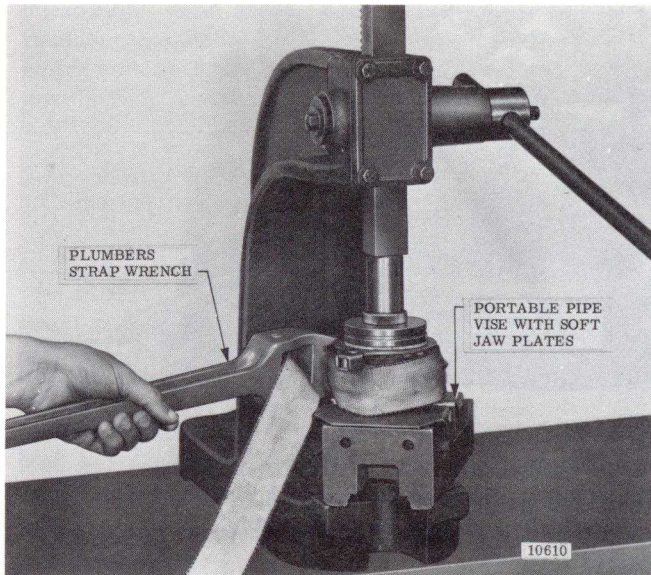

Figure 7-28. Winding Load Brake Gear
(6) The brake spring must be pre-loaded at assembly to a torque of from 6 to 10 lb. ft. when used with yellow (color code) spring and a torque of 10 to 14 lb. ft. when used with plain (no color code) spring. (See Section IX for proper spring). This is accomplished using a plumber's strap wrench to wind (rotate) load brake gear to set up spring (fig. 7-28) while pressing brake flange into place using an arbor press. Clamp pinion end of shaft into a portable vise to keep brake from rotating in press. Use brass or copper jaw plates on vise to protect pinion gear teeth. Wind gear counter-clockwise (viewing brake from flange end) with strap wrench and press down on flange until snap ring groove in shaft is exposed allowing snap ring to be installed. Use extreme care not to over wind spring as yield will result and final spring torque will be reduced. Do not wind gear beyond point necessary to install snap ring in groove.